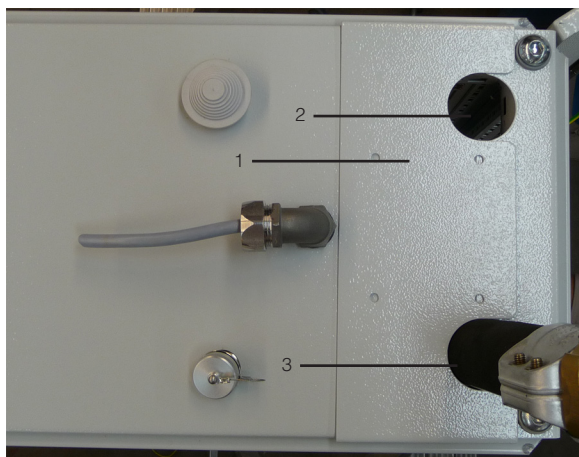

Fig. 46: Top feed connections
-To supply Topfeed Water connections to the LCP the Roof Cover Plate (Fig. 46, item 1) must be rotated 180° to expose the Topfeed Access Holes (Fig. 46, item 2). To do so remove 4 - T25 Screws and then reinstall them after both hoses have been feed through.